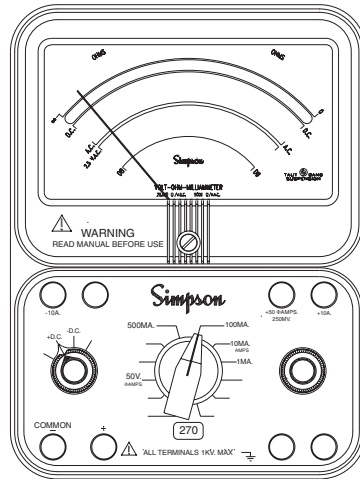

Figure 4-7. Jacks and Switch Positions for Measuring Direct Current
- a. Set the function switch at + DC (Figure 4-7).